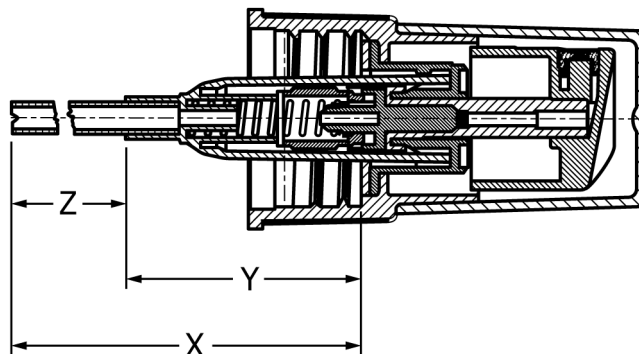

FIG. 2 Overall Dip Tube Length "X" Versus Exposed Dip Tube Length "Z"
4.10 To specify the exposed dip tube length, measure the length of the exposed body as per dimension "Y" of Fig. 2 and subtract from the overall length as specified in 4.6.